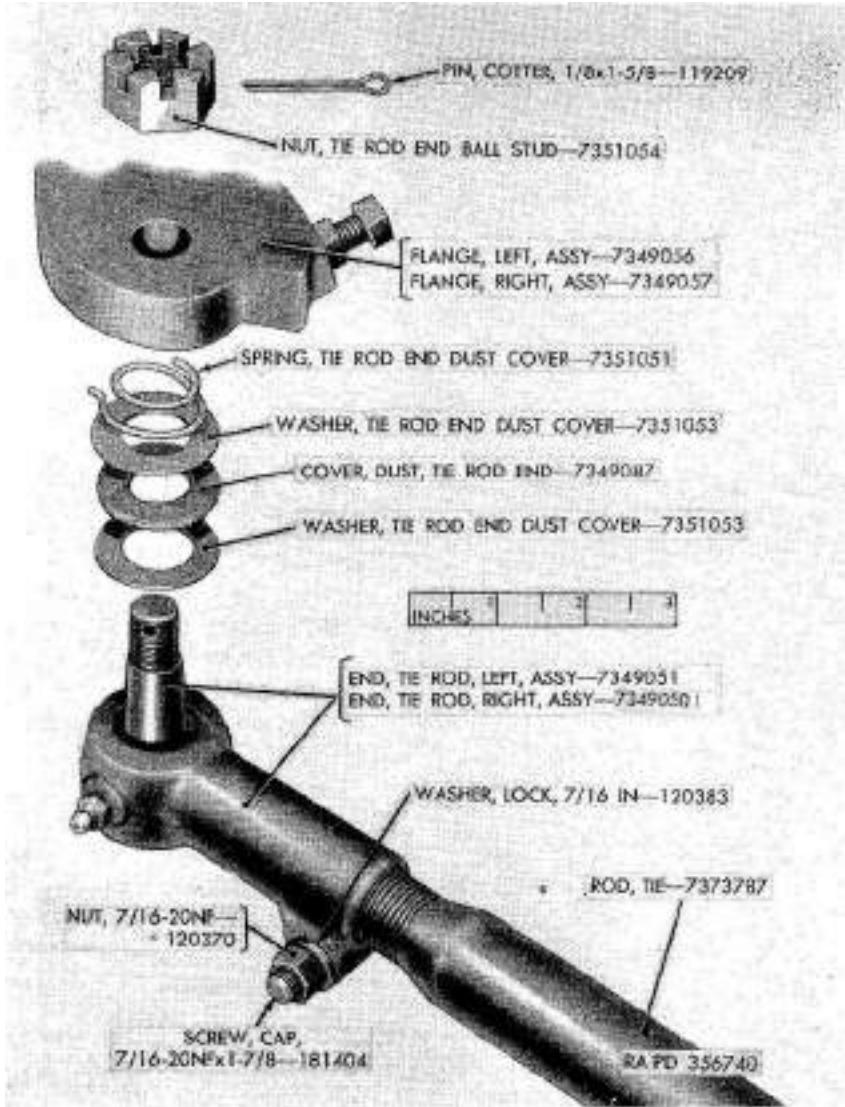

Figure 70 Tie rod end and related parts
l. Inspect Tie Rod Assembly (fig. 70).
c. Install Tie Rod Assembly (*fig. 70*).
- (1) If inspection (par. 781) reveals that tie rod or tie rod end assemblies requires replacement, assemble the ends with lubricating fittings toward the rear and the offset of tie rod at right side, to provide clearance for the differential with carrier assembly. Assemble tie rod to flange assemblies with an equal amount of exposed threads at each end. The distance between the centers of the tie rod end ball studs should be $48\frac{1}{16}$ inches.